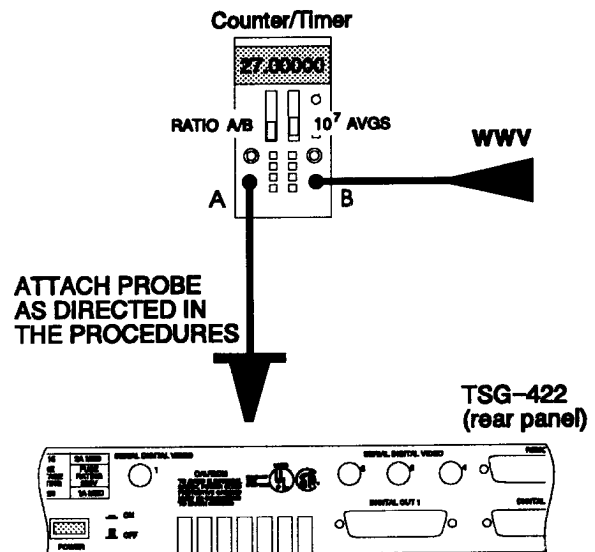

Fig. A-6. Setup to Check the Serial VCO Frequency.
- a. Connect the equipment as shown in Fig. A-6. Connect the probe to TP1 on the Serial Output board.